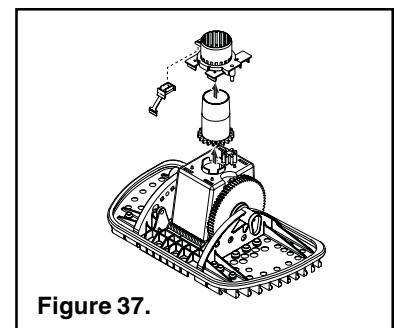

Figure 37.
5. Squeeze the latching tabs and pull up on the Swivel Housing and Swivel. The assembly will come up, releasing the Swivel Sprocket. Squeeze the latching tabs to remove the Clutch Clip, (see Figure 37).